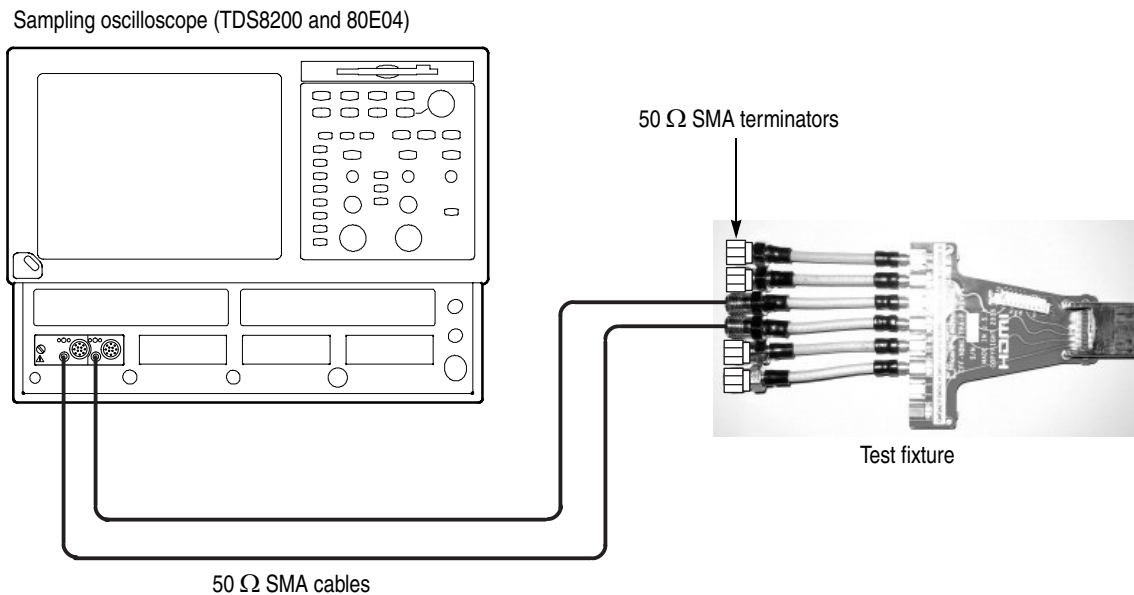

Figure 2: Initial equipment connections for the differential impedance measurement
1. Use the 50 Ω SMA cable to connect the CH1 connector on the sampling module and the DATA0_P connector on the test fixture (see Figure 2).
2. Use the 50 Ω SMA cable to connect the CH2 connector on the sampling module and the DATA0_N connector on the test fixture (see Figure 2).
3. Use the 50 Ω SMA terminators to terminate the unused connectors on the test fixture (see Figure 2).